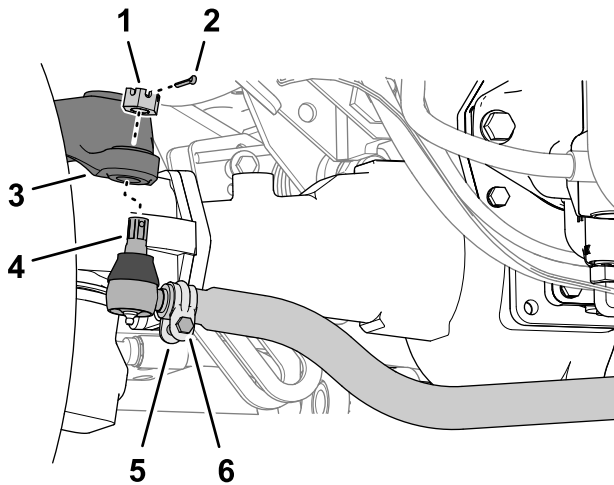

Figure 107
1. At the rear axle, remove the cotter pin and the slotted nut from either tie-rod end (Figure 107).
3. Loosen the clamps at both ends of the tie rods (Figure 107).